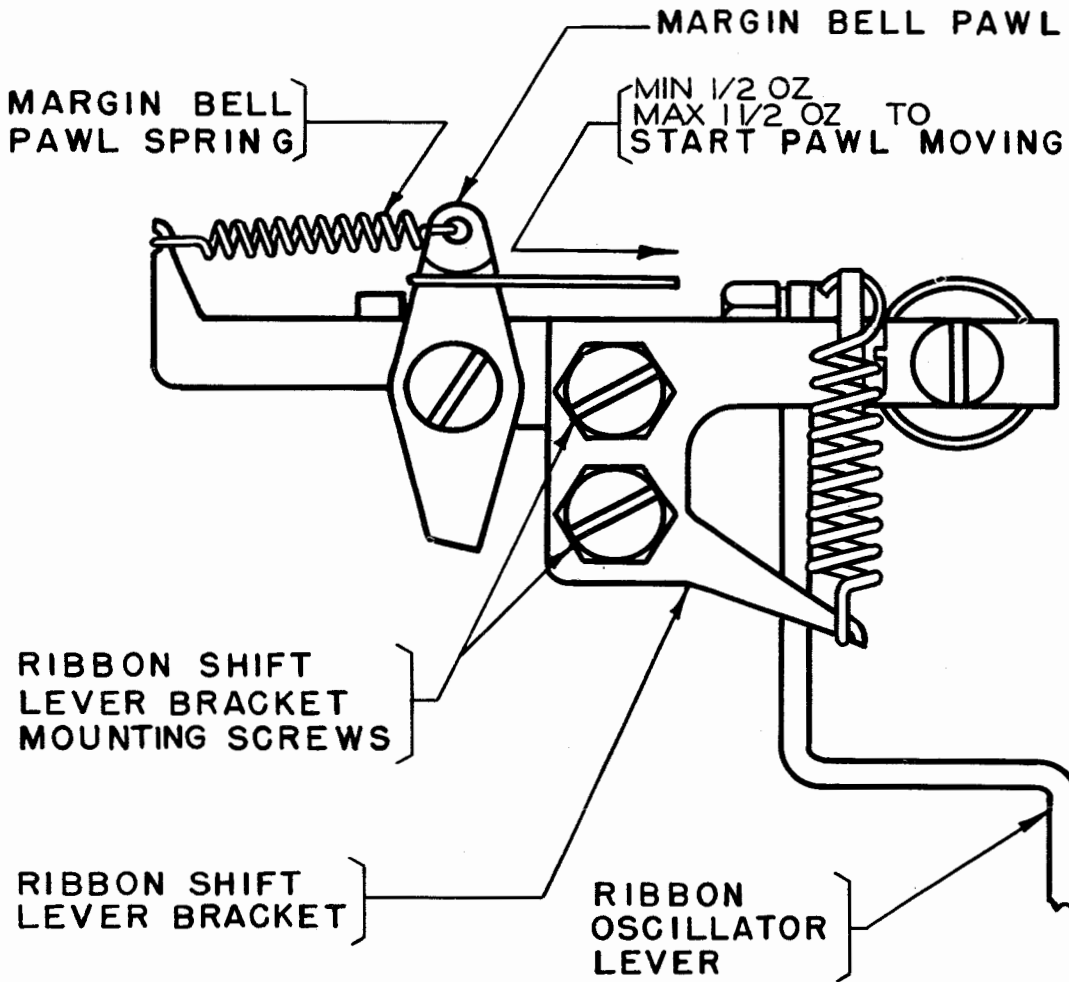

Figure 15
To Adjust: Reposition the ribbon-shift-lever bracket. See Figure 15.
2.28 Margin-bell-pawl Spring should have a tension of minimum 1/2 ounce, maximum 1-1/2 ounces. See Figure 15.